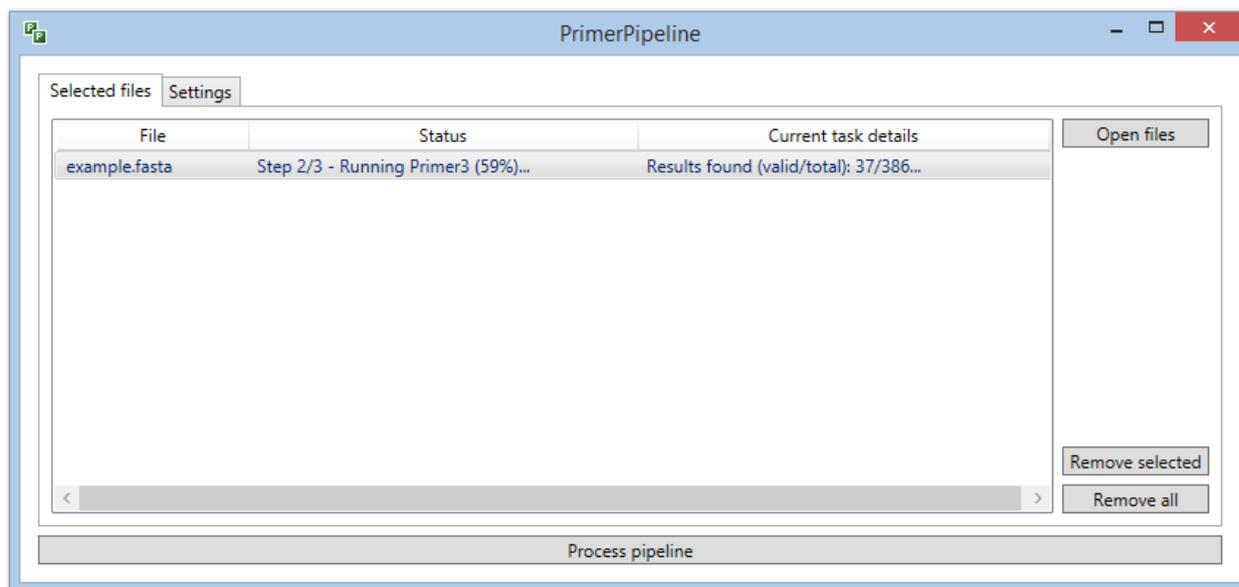

Figure 12. How **PrimerPipeline** looks when running step 2/3 – Running Primer3.
- After 30 seconds the 'Current task details' will show 'Results found (valid/total)' (Figure 12).
6. Output: This column shows the sequence in normal text, and if *Highlight data* and *Highlight in bold* are both selected the microsatellite (SSR) will be overlaid in **red**, and forward primer in **green** and the reverse compliment primer in **blue** (see key on Figure12). This allows you to easily view and check your primers. This column is only there if *Include data* is highlighted in 'Settings'.